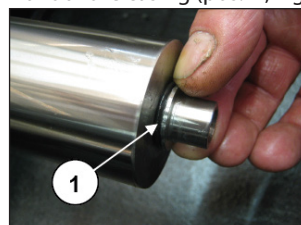

Fig. 141
Fit the O-ring (pos. ①, Fig. 141) and the splashguard (pos. ①, Fig. 142) on the piston guide rod with the groove facing the front of the casing (pos. ②, Fig. 142).